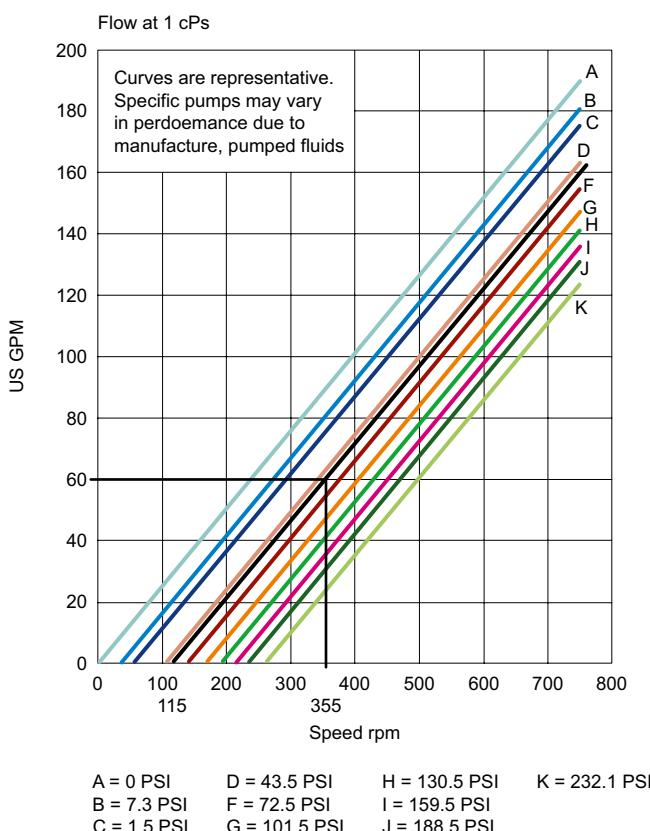

Fig. 7.6.3i
- Using the Flow at 1 cPs curve (Fig. 7.6.3i), starting at the viscosity corrected DHS speed value of 115 rpm, draw a line parallel to the pressure lines